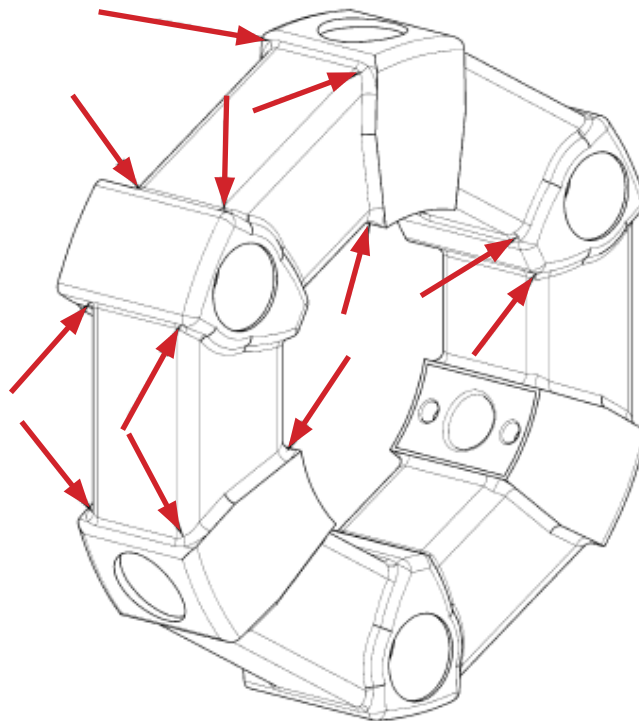

Figure 130: Examples of wear zones on the rubber element indicated by arrows
C. Inspect the rubber element for cracks and loss of rubber adhesion to the metal inserts inside the element. If a crack deeper than 1.5 mm is found or if the rubber-to-metal connections have come loose, the rubber element should be replaced. Figure 130 below shows typical rubber element wear zones. Pressure folds (creasing) in these zones may be considered normal.